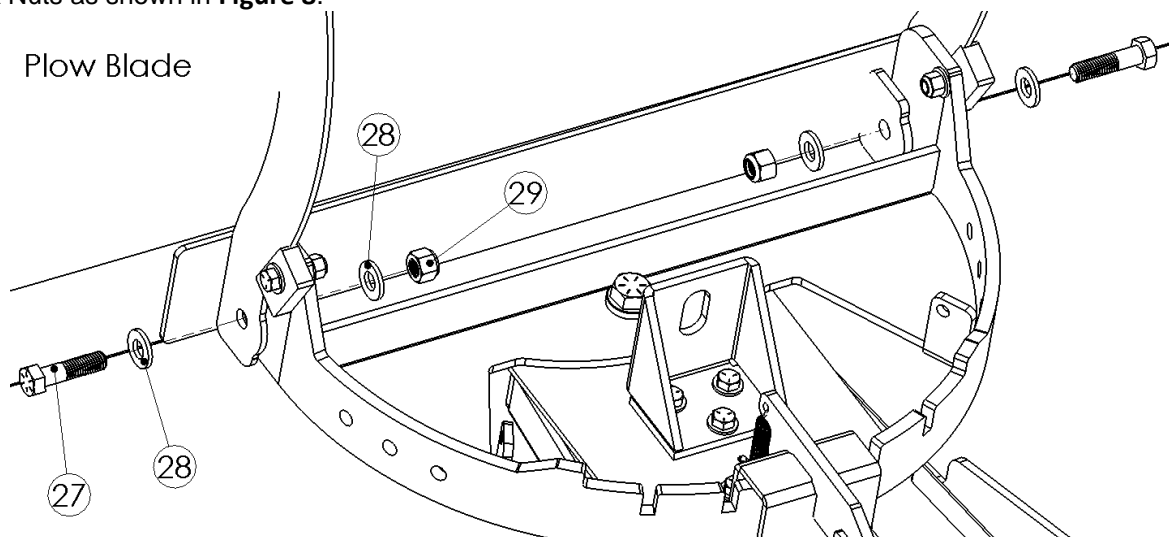

Figure 8
- 8) Attach the completed Pushtube assembly to the Snow Plow using the 1/2" x 2.00" Hex Bolts, 1/2" Flat Washers, and 1/2" Nylock Nuts as shown in **Figure 8**.